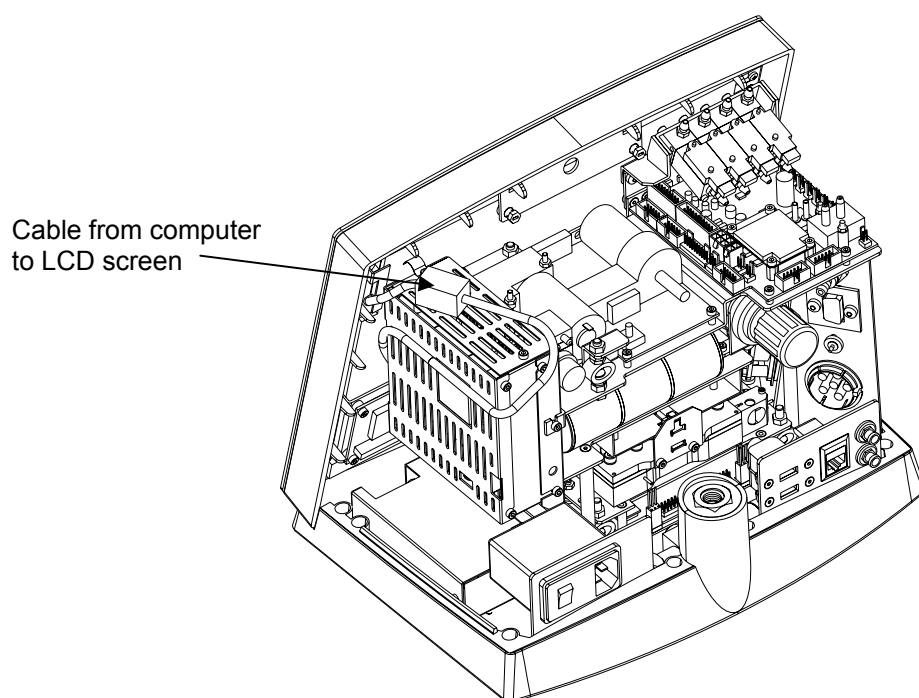

Figure 7.2-5 Assembly cabinet – location of cable between computer and screen.
- 7) When reassembling the cabinet remember to place the screen cable on top of the computer box, see figure 7.2-5.